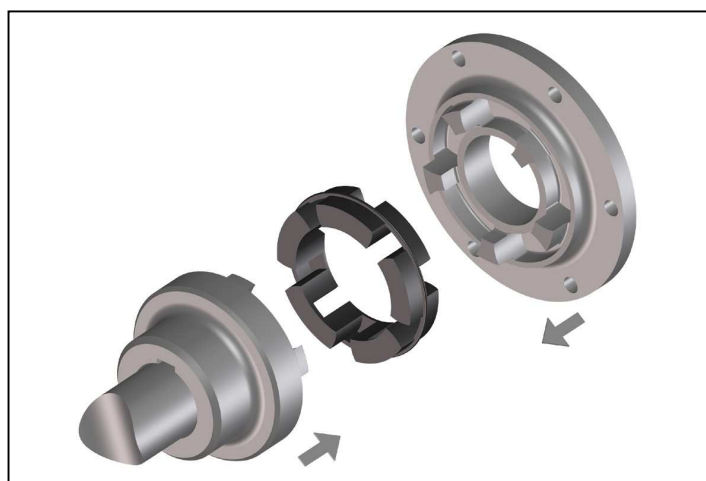

Fig. 6
- Push the shaft end with the mounted coupling half and the coupling flange together (Figure 6).